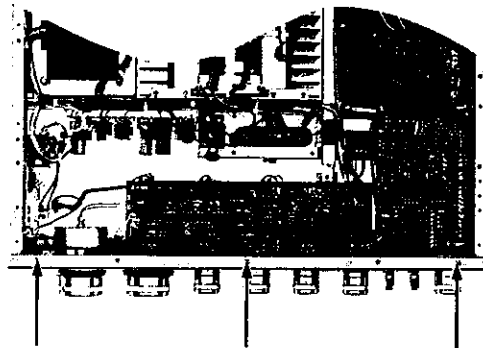

Figure D3
- d) Remove three screws from bottom of the Front Panel (Figure D3).